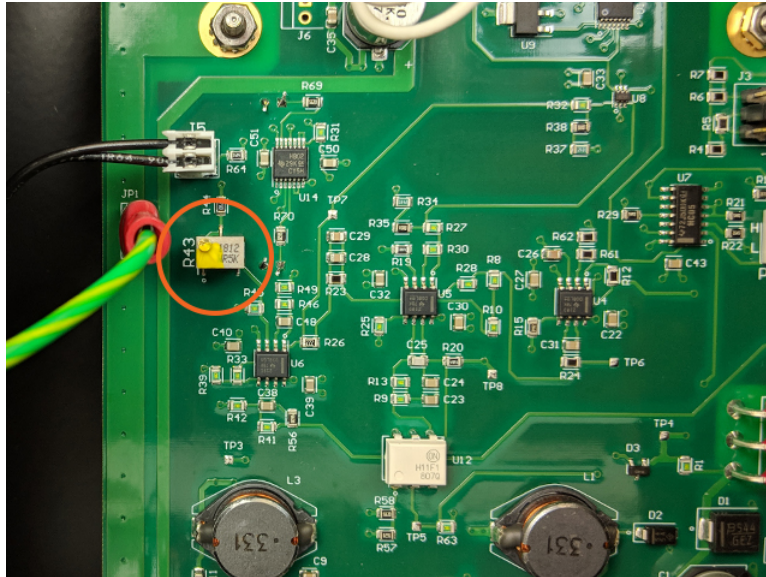

Figure 2-4. R43 Trim Potentiometer for Calibration (with Yellow Adhesive Shown)
- Locate the R43 trim potentiometer on the circuit board (lower left). Notice that after initial production facility calibration, adhesive is applied to the screw to prevent it from accidentally rotating and altering calibration. During subsequent calibration, the adhesive must be broken to adjust the trim screw setting on the potentiometer (see Figure 2-4). The blade on the